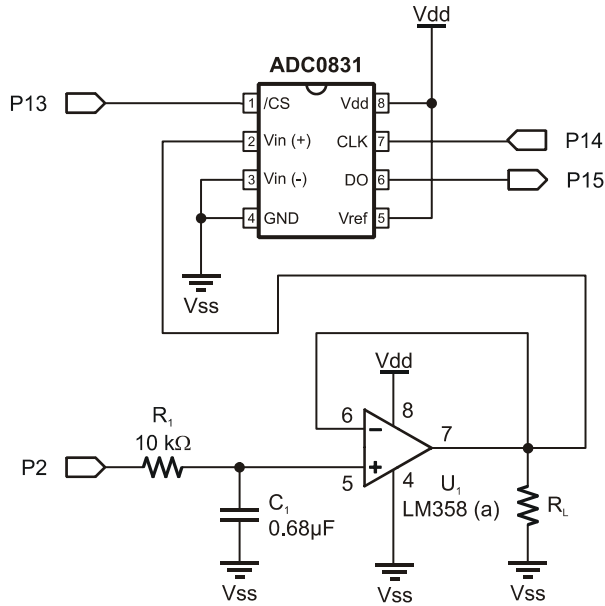

Figure 5-16
- √ Add the op-amp to the circuit as shown in Figure 5-16.